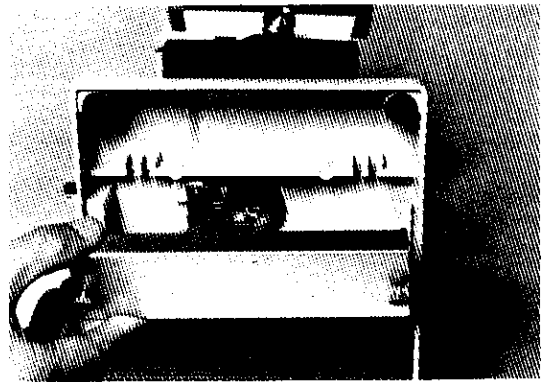

Fig. 9
2. The replacement of the Lamp is easily accomplished by removing the bottom cover of the lamp housing in the base of the microscope (Fig. 9). Follow this procedure: